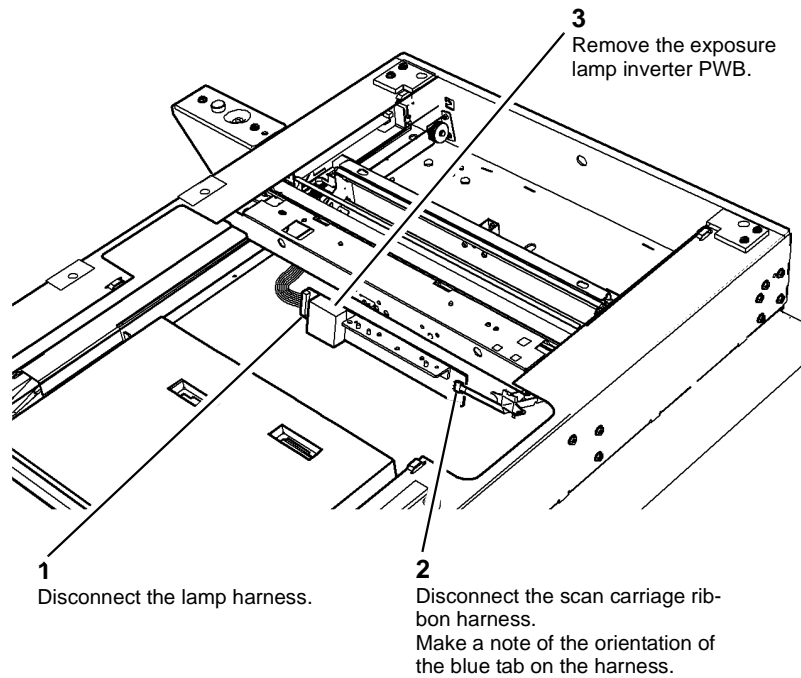

Figure 2 Remove the inverter
4. Remove the exposure lamp inverter, Figure 2.